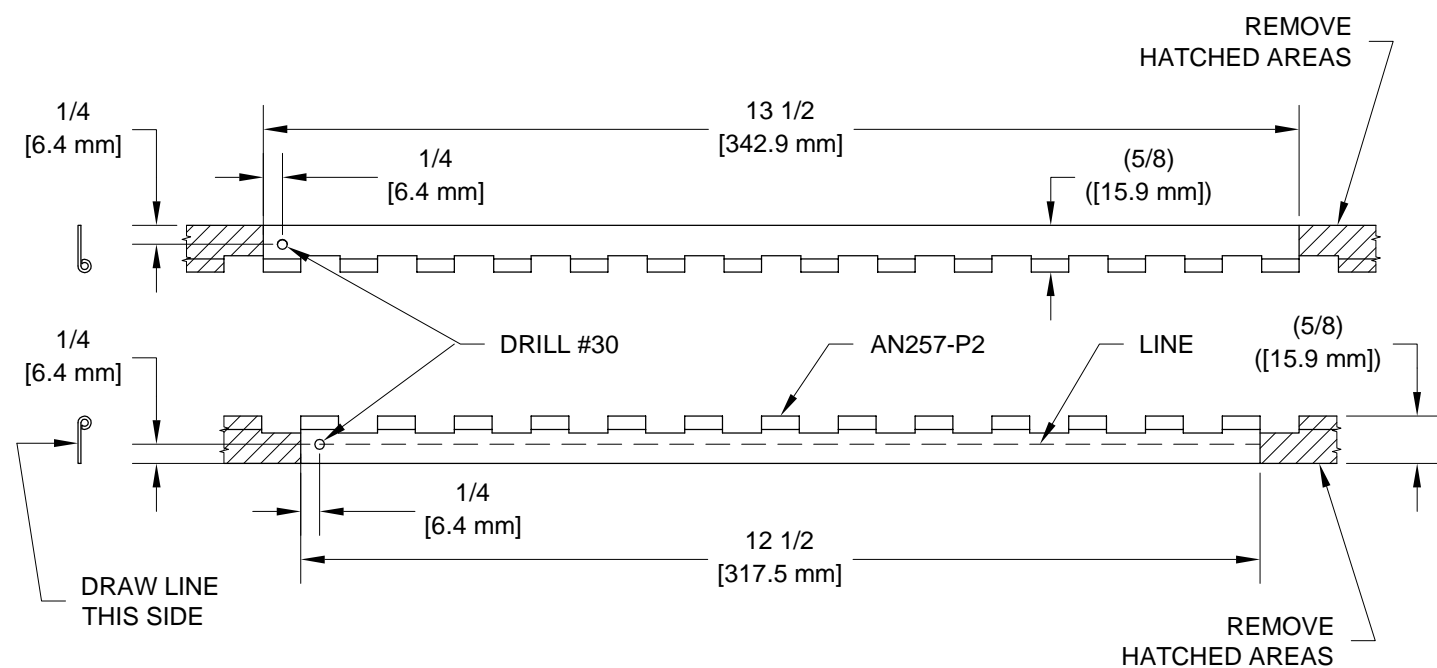

FIGURE 1: FABRICATING THE F-1237F
Step 3: Drill #30 one locating hole in each half of the F-1237F using the dimensions given in Figure 1.
Step 4: Draw a line on the 12 1/2 [317.5 mm] half of the F-1237F as shown in Figure 1.